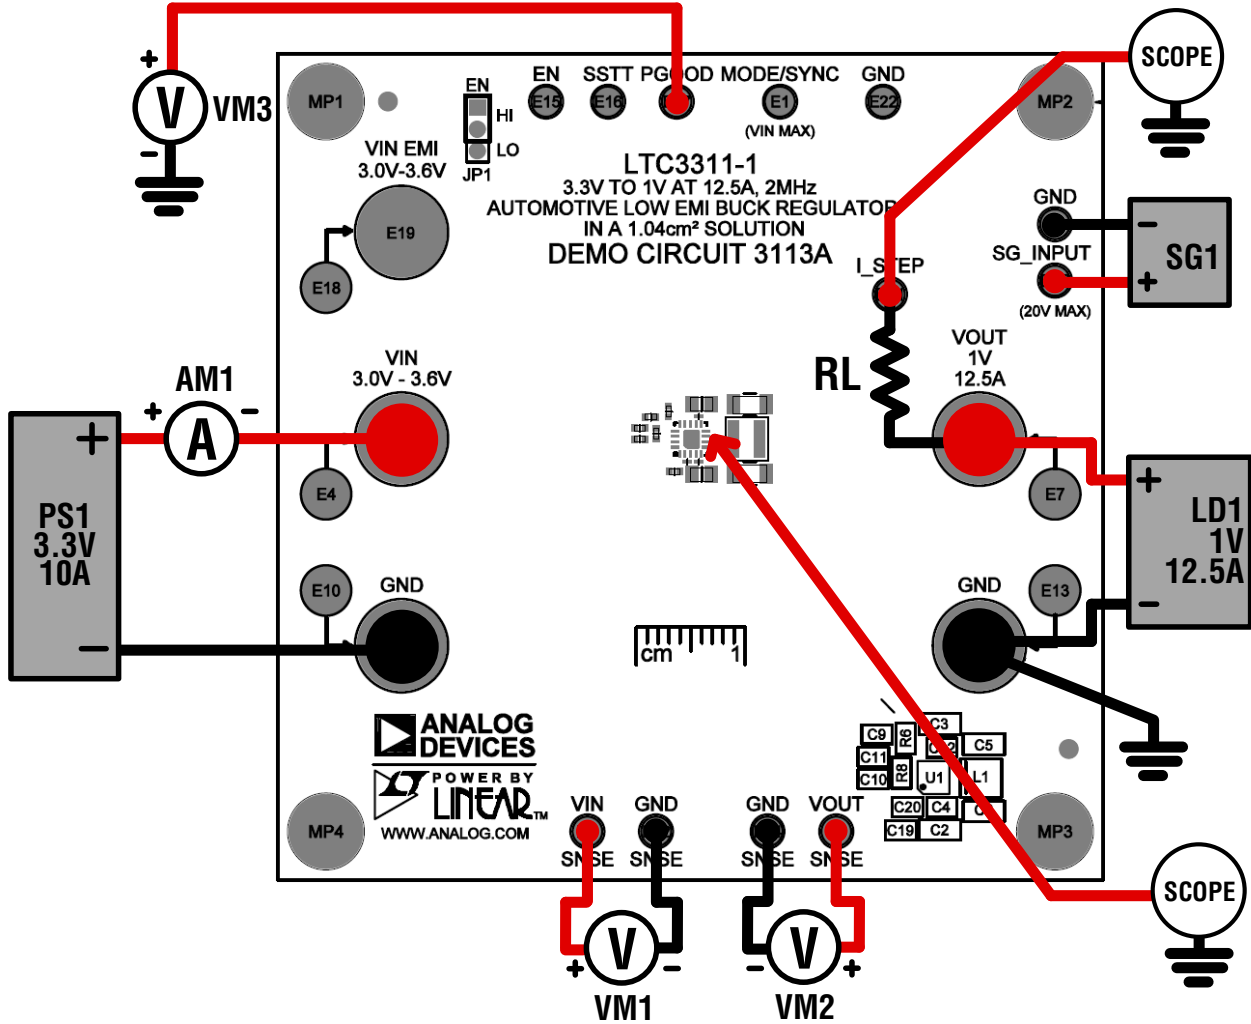

Figure 2. Test Setup for DC3113A Demo Board
Refer to Figure 2 for the proper measurement equipment setup and follow the procedure below:
NOTE: For accurate V_{IN} , V_{OUT} and efficiency measurements, measure V_{IN} at the VIN SNSE and GND SNSN turrets, and measure V_{OUT} at the VOUT SNSE and GND SNSE turrets as illustrated as VM1 and VM2 in Figure 2. When measuring the input or output ripple, care must be taken to avoid a long ground lead on the oscilloscope probe.
- To test the transient response with a base load, add the desired resistor to produce a minimum load between VOUT and I_STEP turrets (R_L shown on Figure 2). Note that the total load resistance will be R_L plus R10 (10mΩ). Adjust a signal generator with a 10ms period, 10% duty cycle and an amplitude from 1V to 2V to start.